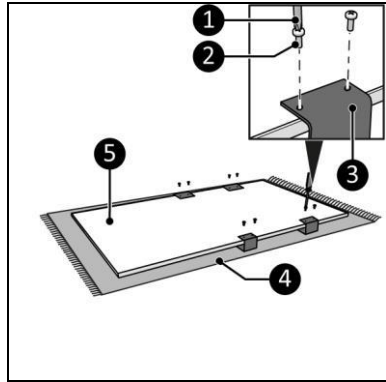

Figure 10
8. Lay the device down on a soft steady surface (Figure 10, pos. 4).
9. Place the two towel rails (Figure 10, pos. 3) on two of the three possible locations on the main body (Figure 10, pos. 5).
10. Screw and tighten the two towel rails (Figure 10, pos. 3) with eight small screws (Figure 10, pos. 2) using a Phillips screwdriver (Figure 10, pos. 1).